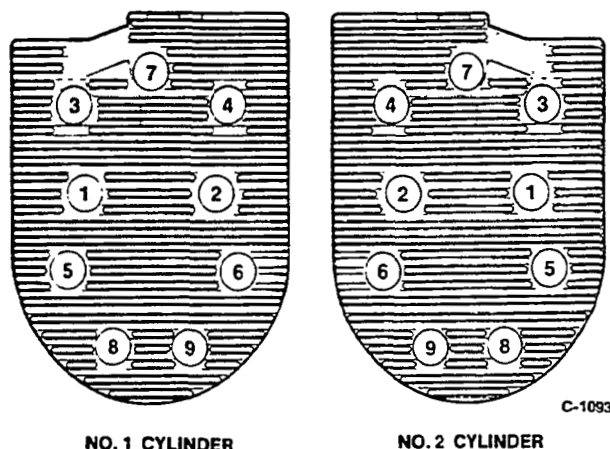

FIGURE 28. CYLINDER HEAD TORQUE SEQUENCE
5. Follow the head torque sequence shown in Figure 28.